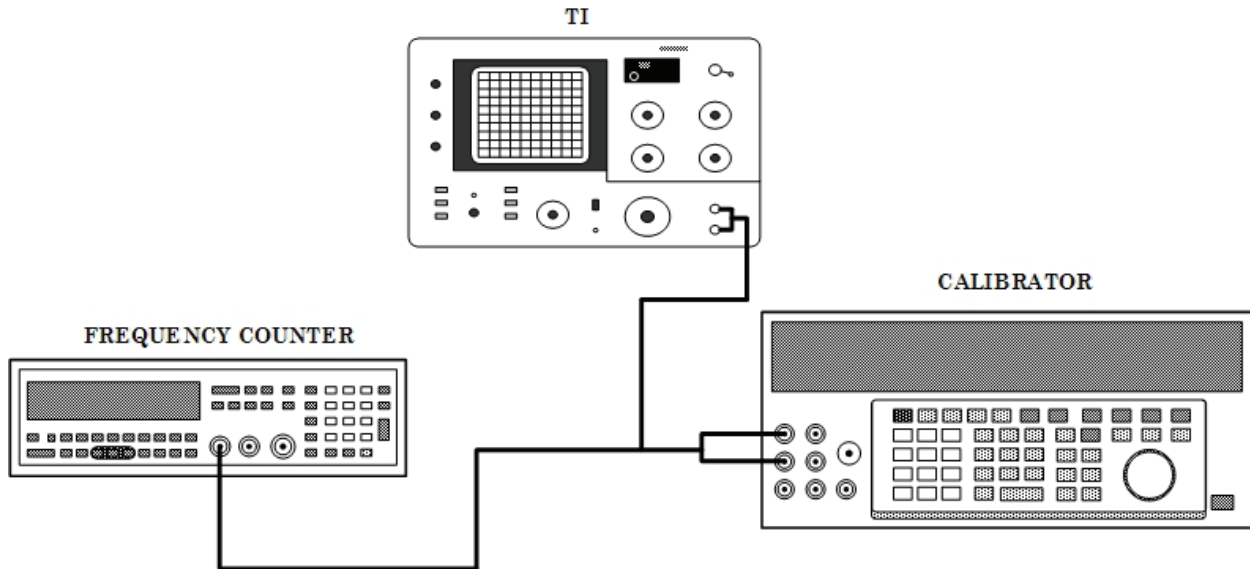

Figure 1. Frequency calibration - equipment setup.
(1) Connect equipment as shown in figure 1.